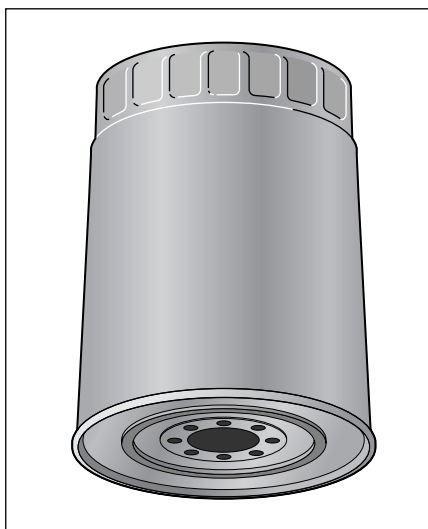

Figure 13-4: An oil filter.
- ✓ **An oil filter:** Under the hood of most cars, sticking out of the engine is what looks like a tin can screwed into the **engine block**. This is the **oil filter** (see Figure 13-4). As the oil circulates from the **oil pan** through your engine, it passes through this filter, which cleans the oil and removes some of the particles of metal and dirt. *Change the oil filter*